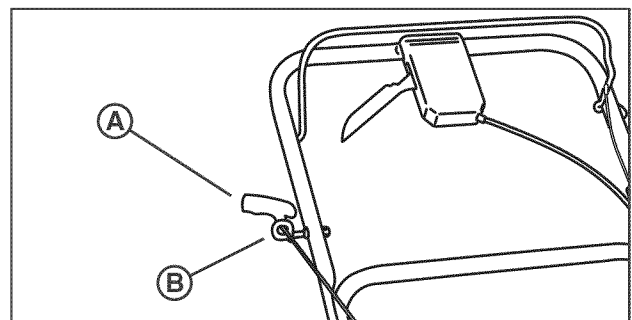

Figure 3: Attaching the recoil-start grip
6. Hold the engine stop lever against the handle. (Refer to section entitled 'Engine Stop Lever'.) Slowly pull the recoil-start grip (A, Figure 3). To attach the recoil-start grip to the rope guide (B), twist the rope through the rope guide mounted on the right side of the handle.